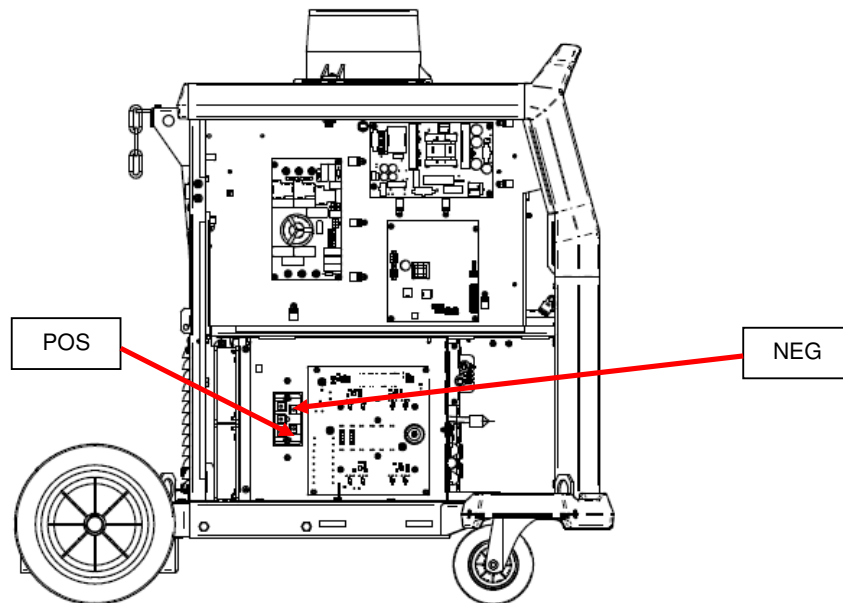

Figure 1
3. Remove the 4 screws (**A**) from the rear position of the left and right side panel. **See Figure 1**
4. Locate the terminals **POS** and **NEG** on the Input Rectifier bridge, **See Figure 1**.
8. Use electrically insulate gloves and insulated pliers. Hold the body of the resistor and connect the resistor leads across the two points POS and NEG. **See Figure 1**. Hold the resistor in place for 10 seconds. **DO NOT TOUCH CAPACITOR TERMINALS WITH YOUR BARE HANDS.**